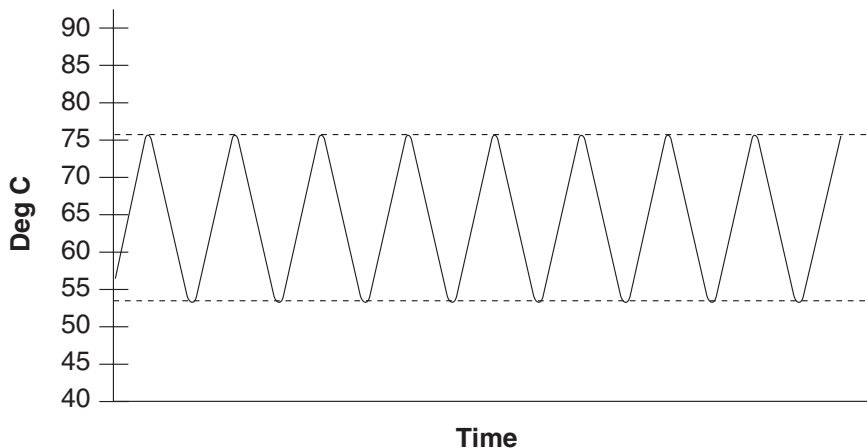

Figure 3 Switch Test Data
12. Collect data on a computer connected to the RS-232 or IEEE-488 port. Refer to Section 7 for instructions on configuring the RS-232 and IEEE-488 communications interface. The data may appear as shown in Figure 3. The maxima and minima are the switch temperatures.